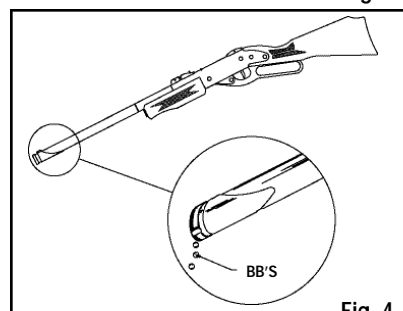

Fig. 4
- After removing the BBs and while keeping your hands away from the front of the muzzle, turn the BB loading knob so that the slot in BB loading knob is positioned on top of the barrel. (Fig. 4).